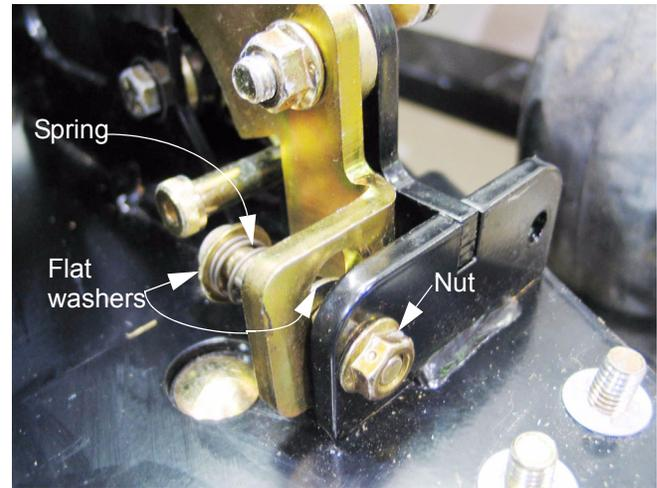

Figure 11.10
11.10. To remove the hinge lock, the compression spring that holds the hinge lock against the bracket on the deck wing must first be disconnected. See Figure 11.10.